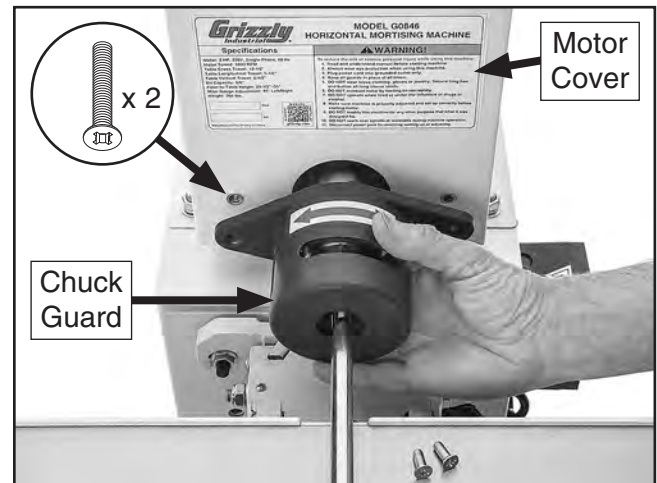

Figure 39. Removing chuck guard.
7. Remove (2) flat head screws from chuck guard and separate it from motor cover (see **Figure 39**).